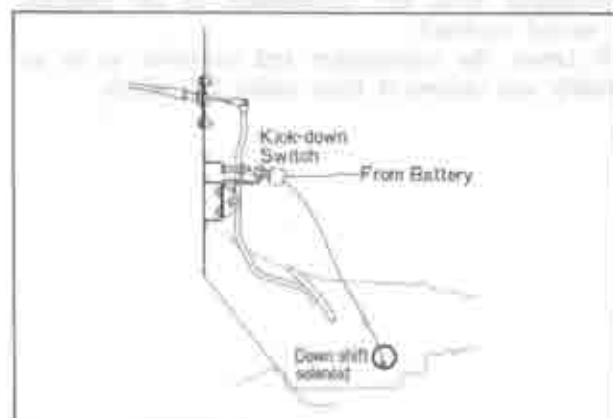

Fig. 7B-6 Kick-down switch adjustment
2. Loosen the kick-down switch attaching nut and adjust the switch to engage when the accelerator pedal is between $7/8 \sim 15/16$ of full pedal travel. The down shift solenoid will click when the switch engages (Fig. 7B-6).